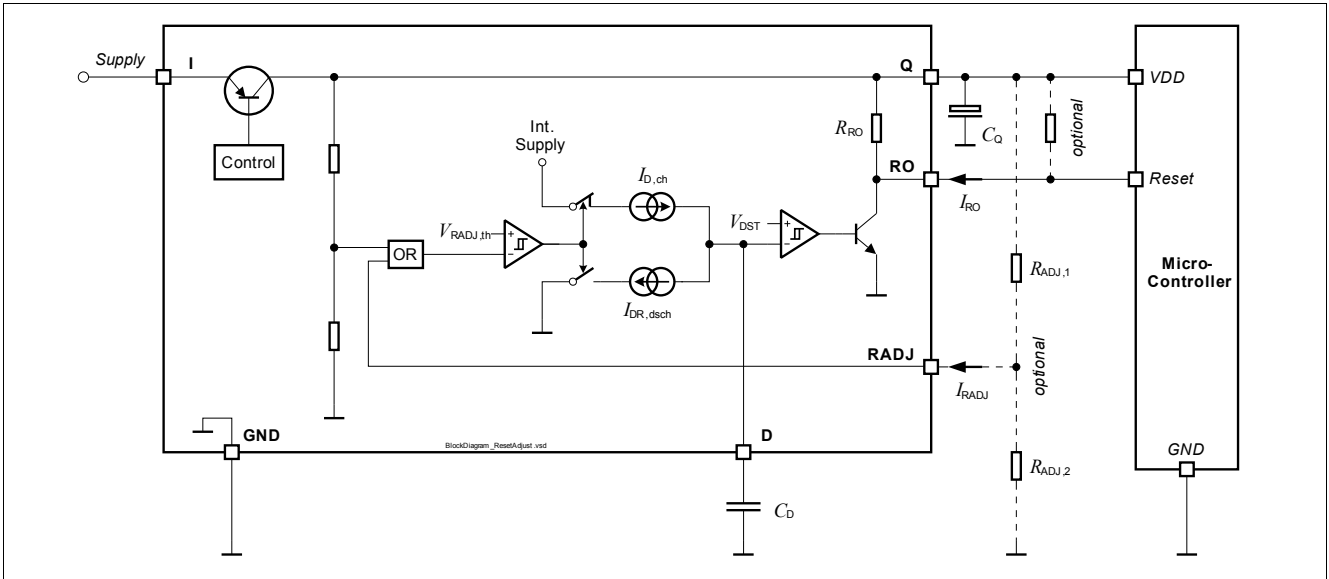

Figure 7 Block Diagram Reset Circuit
- $R_{ADJ,1}$ ,  $R_{ADJ,2}$ : Resistors of the external voltage divider, see Figure 7.
all voltages with respect to ground, direction of currents as shown in Figure 7 (unless otherwise specified).